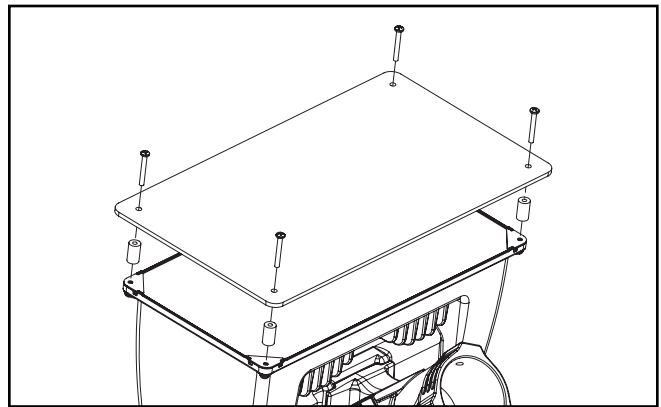

Figure 7.
Vandal Shield (Figure 7.)
1. Loosen and remove the existing (4) 10-24 Philips head screws on the face of the fixture.
2. Align (4) 7/8" spacers with existing holes.
3. Use (4) 10-24 x 1-1/2" screws to secure vandal shield on top of fixture. (Figure 7.)